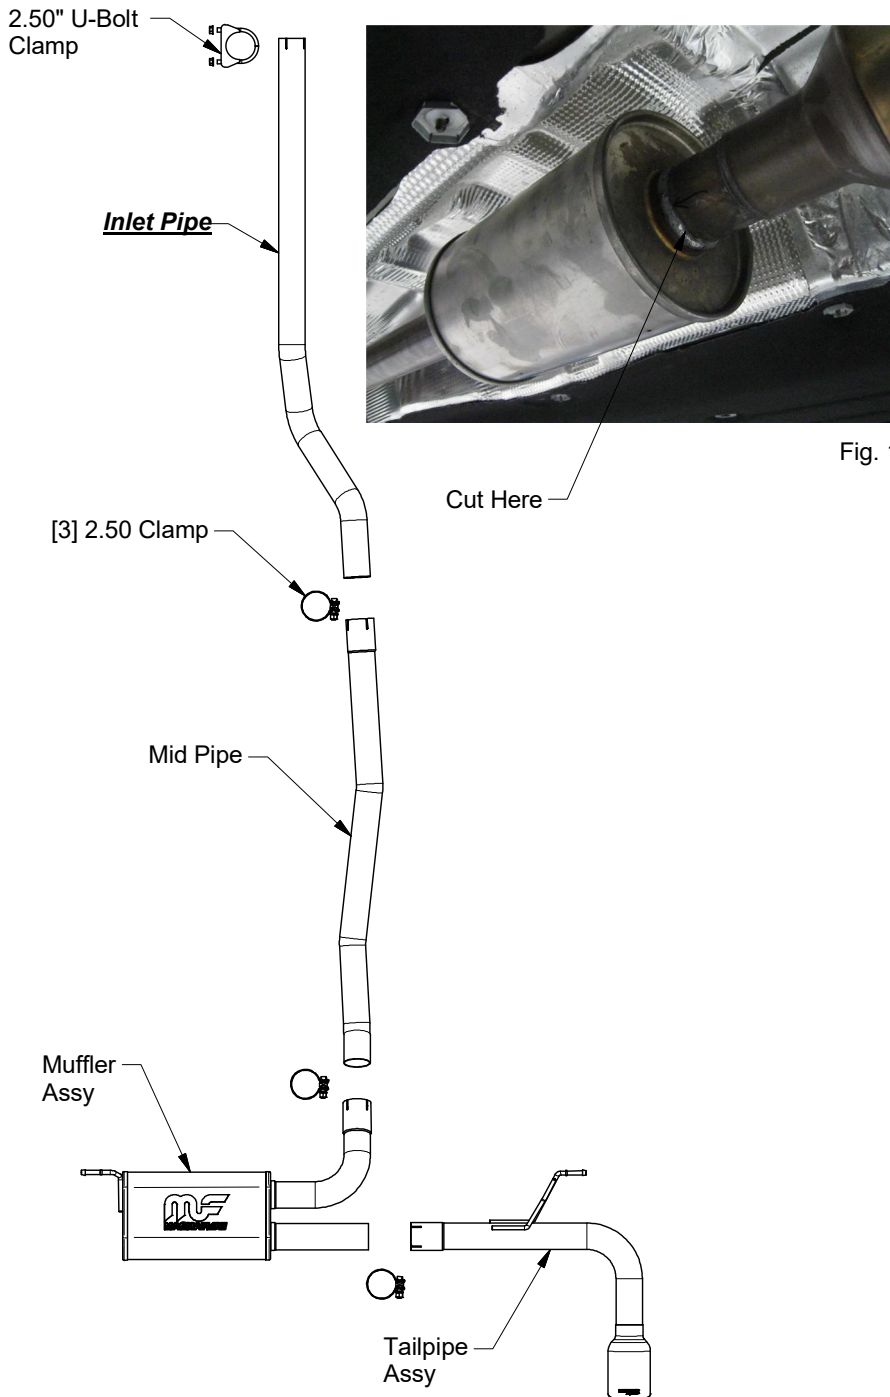

Fig. 1
Step 1: Carefully read all instructions before installation) Begin removal of your OEM exhaust system by cutting the existing exhaust at the weld point just in front of the OEM resonator. Fig.1 (The OEM resonator is removed in this application). Remove all welded hangers from the rubber insulators (retain OEM rubber insulators) and remove the exhaust.